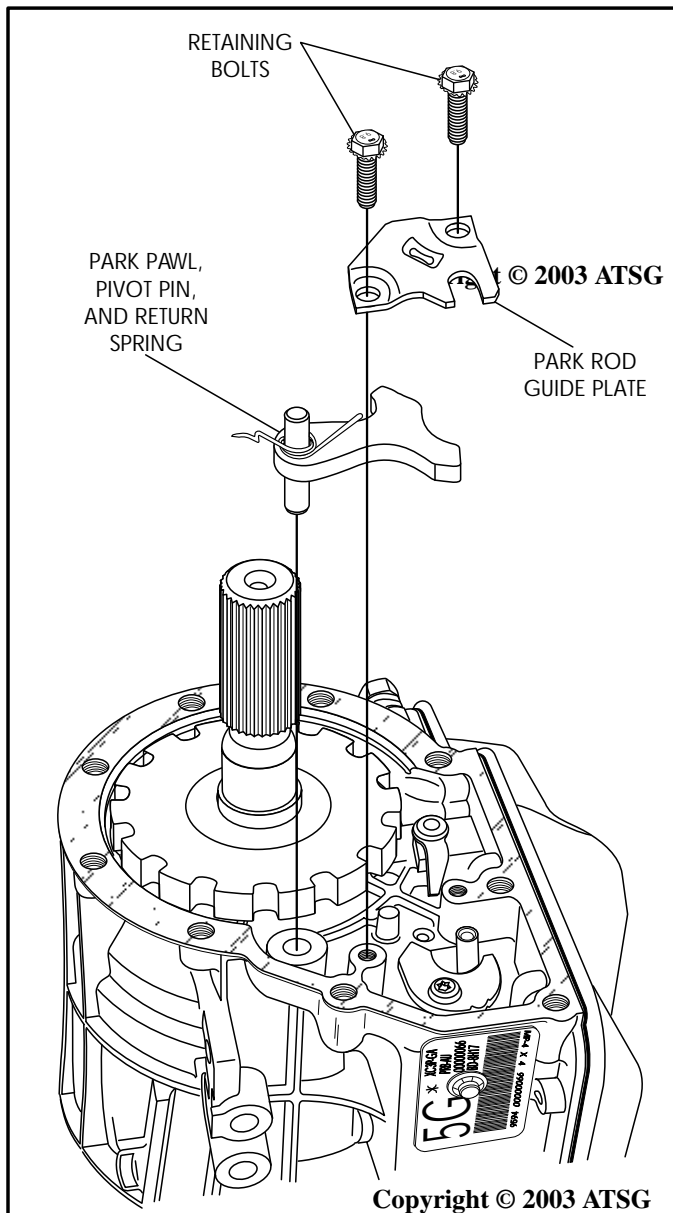
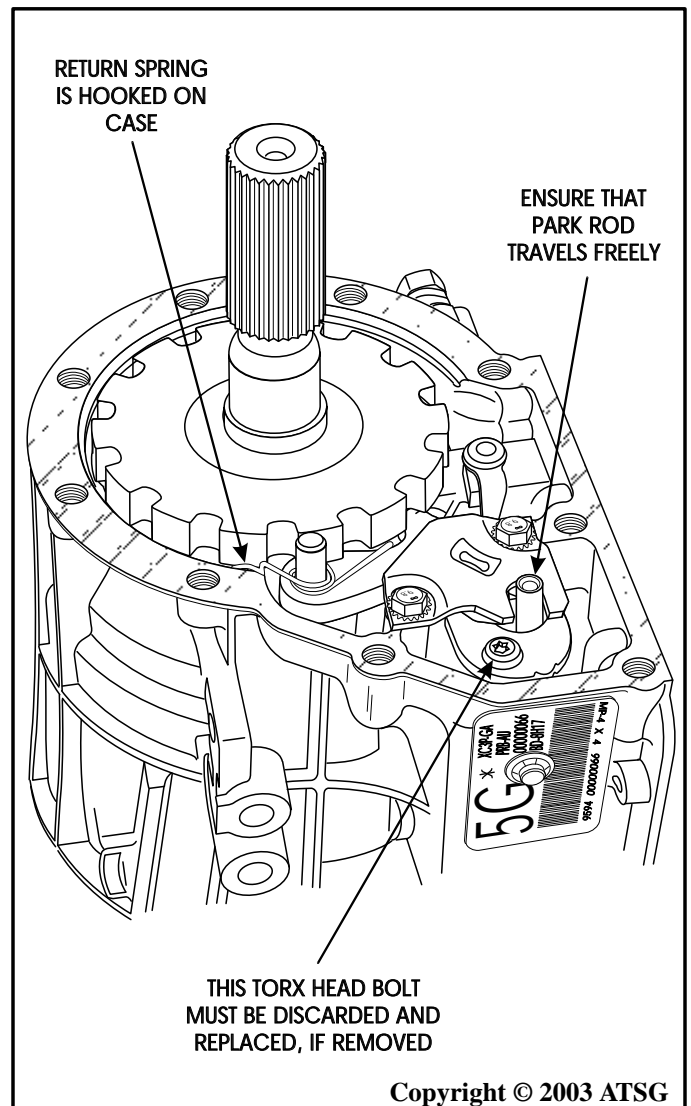

Figure 90
Figure 91
21. Install the parking pawl, pivot pin and return spring, as shown in Figure 90, and ensure that it is hooked properly behind the case, as shown in Figure 91.
22. Install the parking rod guide plate, as shown in Figure 90.
23. Install the two park rod guide plate retaining bolts and torque to 16-27 N·m (12-20 ft.lb.). **Note:** *Ensure that park rod operates freely through the guide plate (See Figure 91).*
24. The Torx head bolt retaining the park pawl abutment plate, shown in Figure 91, has thread locking compound and should not be removed unless damage is apparent.